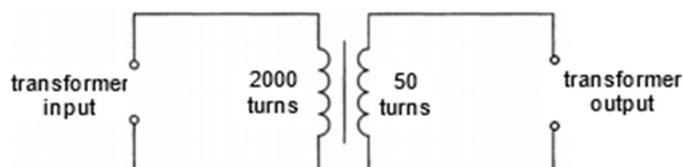

Fig. 6.6
- (ii) The output of the generator is connected to the input of a transformer as shown in Fig 6.6. The transformer has 2000 turns in the primary coil and 50 turns on its secondary coil.